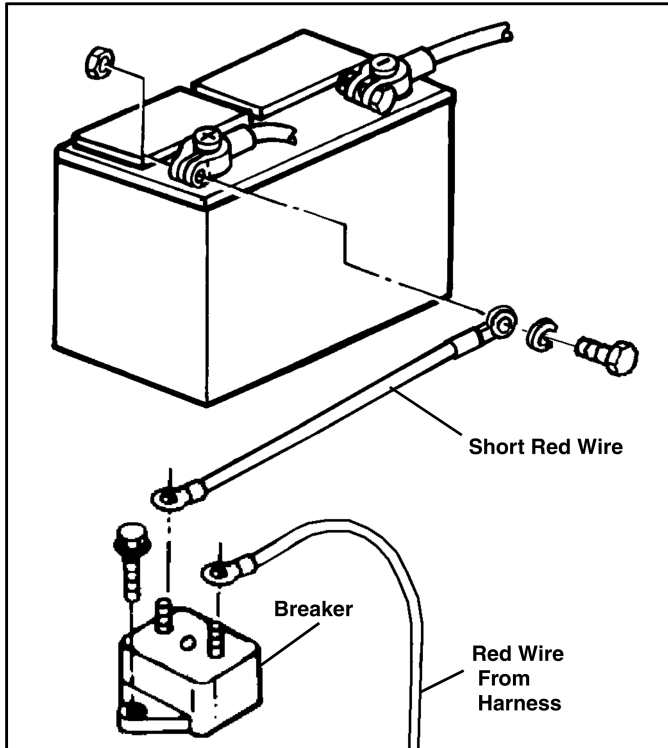

Figure 1-5
17. Locate short red wire (#96106728) with two ring terminals. Attach the small ring terminal to the copper colored post marked BAT on the breaker. Attach the other, large ring terminal to the battery positive terminal. (See Figure 1-5).